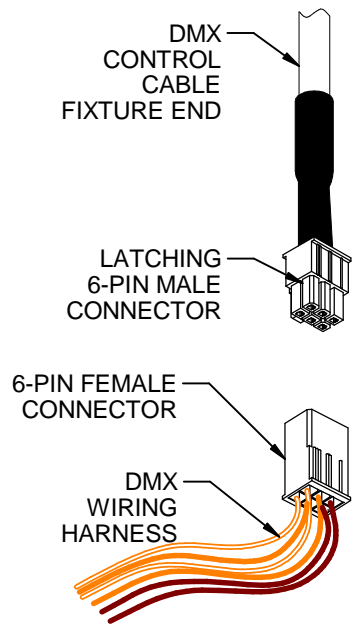

Fig. 2
3. **At the fixture wiring compartment** – make the power connections in the MC10LED fixture wiring compartment per the product installation instructions. Connect the DMX control wiring by connecting the latching 6-pin male connector on the fixture DMX cable to the female 6-pin connector on the DMX wiring harness (**Fig. 2**). The DMX wiring harness has Orange, Orange with White Stripe, and Brown wires, with the 6-pin connector at one end. Be careful not to pull excessively on the DMX wiring harness while connecting to it. Rough handling of the harness may stress or unplug the connections at the LED driver. **NOTE:** If the fixture has less than a full complement of drivers (4L, 8L, or 12L versions) there will be three 3-port WAGO connectors that are connected to unused harness pins in the wiring compartment.